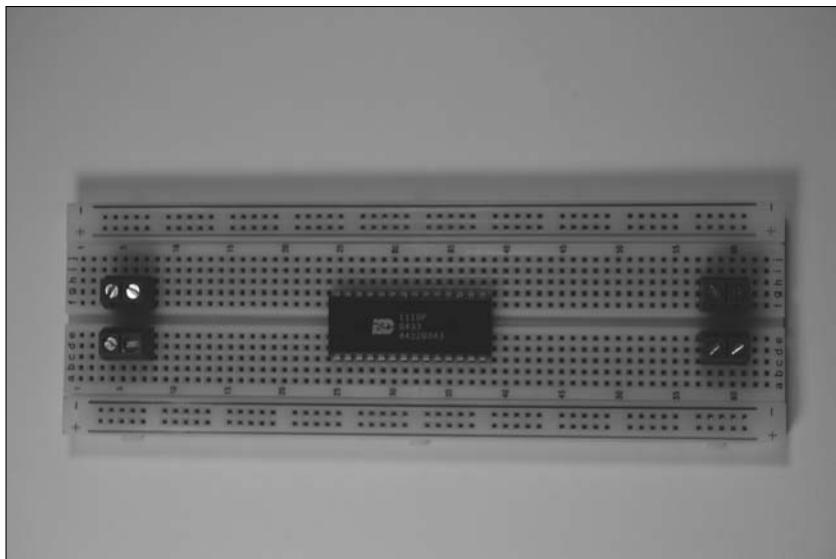

Figure 14-4:
1. Place the voice chip IC and four terminal blocks on the breadboard, as shown in Figure 14-4.